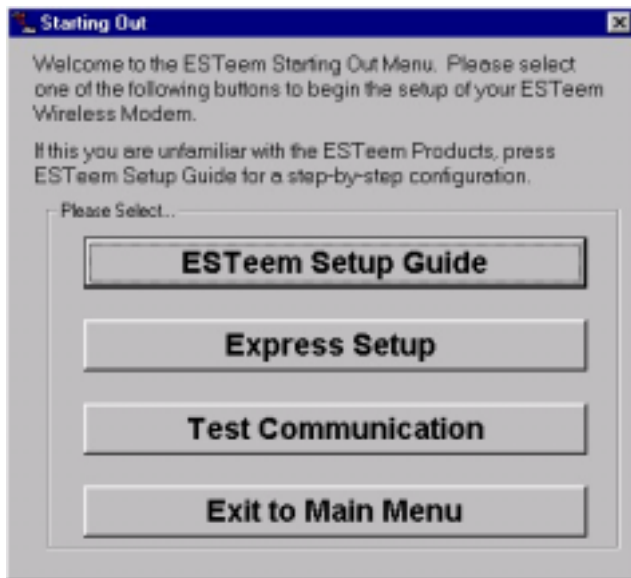

Figure 3: Starting Out Main Menu
1. Select ESTeem Starting Out from the main menu. A window like the one in Figure 3 will be displayed. If this is your first time using the ESTeem wireless modems, select ESTeem Setup Guide for a complete description of all ESTeem functions. Proceed to step 2.
16. Press Complete Setup. You have just configured all operating parameters within the ESTeem. If this is your first ESTeem you have programmed for testing, press the Express Setup button on the Setup Main Menu (Figure 3) to program subsequent ESTeem Modems. The Express Setup will allow you to quickly configure the remaining ESTeem modems without additional instruction. If you have at least